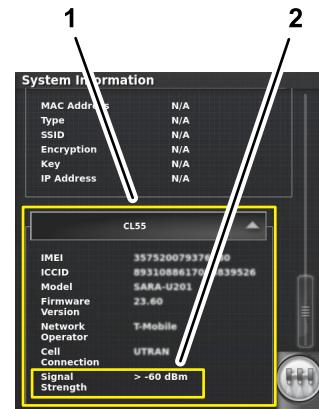

Figure 211
2. In the system information screen, use the scroll bar to navigate to the CL55 icon (Figure 211).
3. Press the CL55 icon to display the signal strength information.(Figure 211), and verify that the modem signal strength is between -60 dBm and -99 dBm.